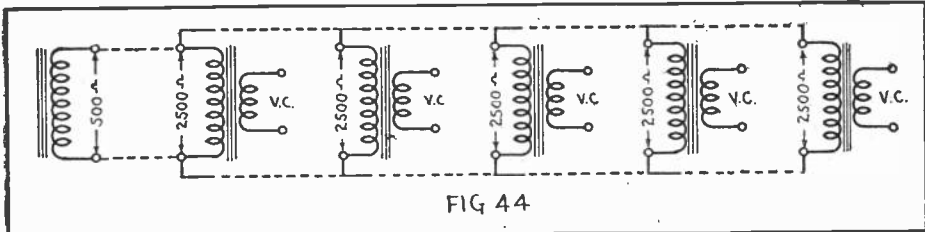
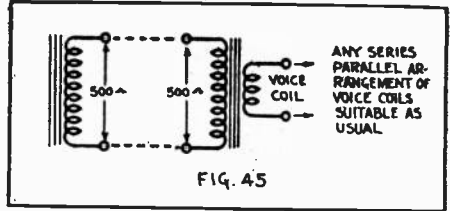
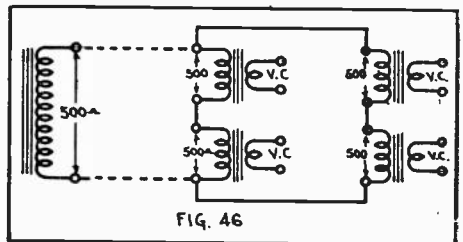

FIG 44
FIG. 45
FIG. 46
to Fig. 44 illustrating voice coil connections, parallel, or series and parallel arrangements. With the field voltages turned "on" (turn amplifier "on" if field excitation exists only when amplifier is "on"), apply a make-break potential of 4.5 volts (C-battery) to the secondary terminals of the 500-ohm line or output transformer. DO NOT HOLD BATTERY CONNECTIONS TO TERMINALS TOO LONG. Never use a voltage in excess of 4.5 volts; never change "C" battery wires around during this procedure. Make contact for about a second, then break (one lead). Another man must be at the speakers to feel the direction of each cone's movement. THEY MUST ALL MOVE ALIKE—in similar direction. Where a unit moves in opposite direction, simply reverse either the field or the voice coils leads—whichever is most convenient.
(5) Voice coils should be arranged in series, parallel, or series-parallel, so that the combined total of impedance effectively matches the secondary of the line matching transformer. Where a single speaker is concerned, employ the circuit in Fig. 45. Where five voice coils are employed, use speaker transformers and the arrangement shown in Fig. 44. The primary winding of the speaker-matching transformer has an impedance of 2500 ohms. Five of them in parallel result in an impedance of 500 ohms, which will work into the 500-ohm line transformer. As explained before, the impedance of the line is ignored, because of its relatively low value as compared to the transmission impedance. A series-parallel arrangement is shown in Fig. 46. Here two sets of 500-ohm (speaker-primary) impedances are wired so that the combined impedance is still 500 ohms and matches the line transformer.